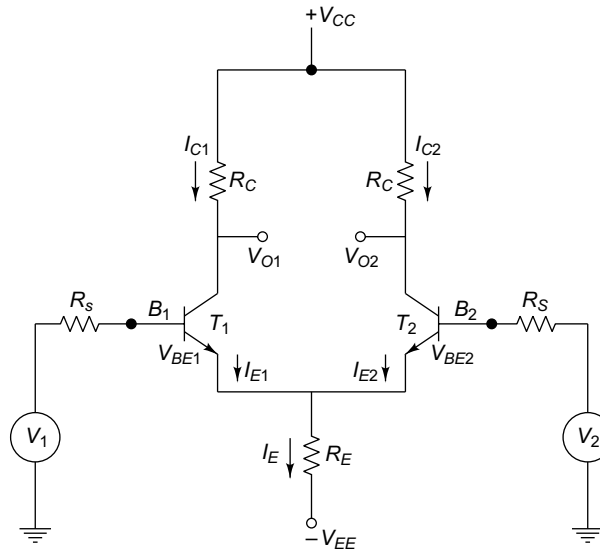

Fig. 4.12 Difference amplifier
4.6 The difference amplifier as shown in Fig. 4.12 has the following parameters: